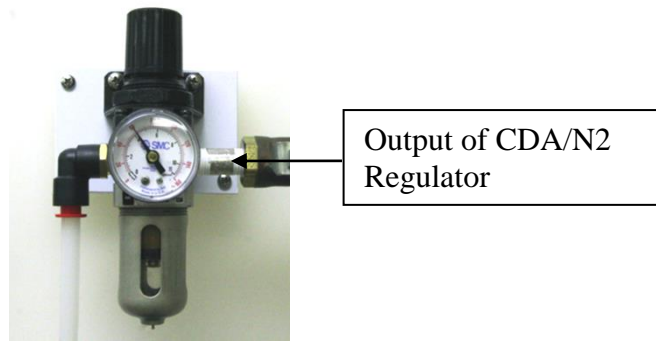

Figure 2
1. For best performance use a dedicated CDA or N2 supply regulator for the vacuum generator. The generator's flow rate is approximately 1.67cfm at 60psig. See figure 2.